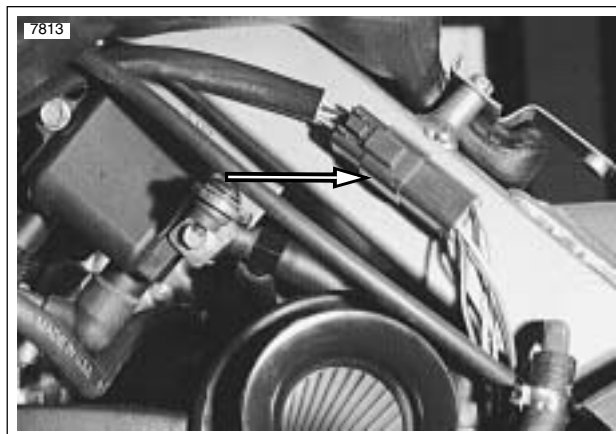

Figure 7-92. Ignition Connector [10]
13. See Figure 7-92. Unhook connector [10] from the T-stud on the left side of the frame backbone.
18. See Figure 7-92. Disconnect ignition connector [10] on left side of frame backbone.
18. See Figure 7-92. Mate ignition module connector [10] and attach to T-stud on left side of frame backbone.